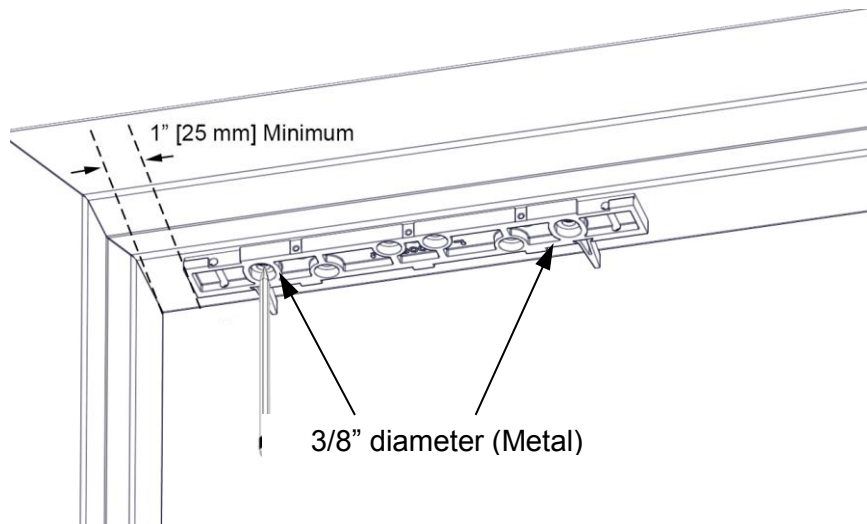

Figure 5. Marking the Frame
- d. MARK the frame through the two (2) oblong bracket mounting holes (see Figure 5, "Marking the Frame").